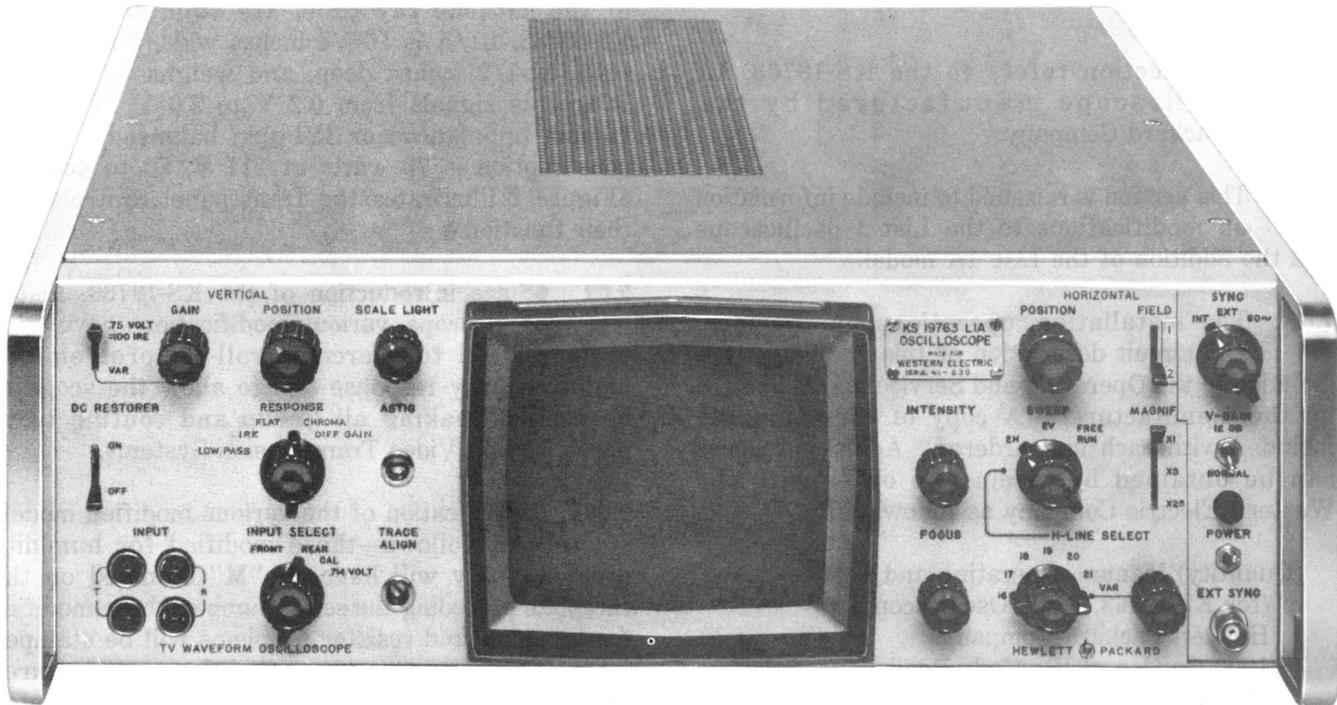

Fig. 1—KS-19763, List 1A Oscilloscope
2.01 The KS-19763, L1/A oscilloscope (Fig. 1) is intended for use in monitoring and maintaining television transmission facilities. It is also referred to as an A-scope or a television waveform monitor. It is designed to display the line and field waveforms of the standard monochrome or color television signal, particularly vertical interval test signals (normally referred to as VITS). All components of the oscilloscope, with the exception